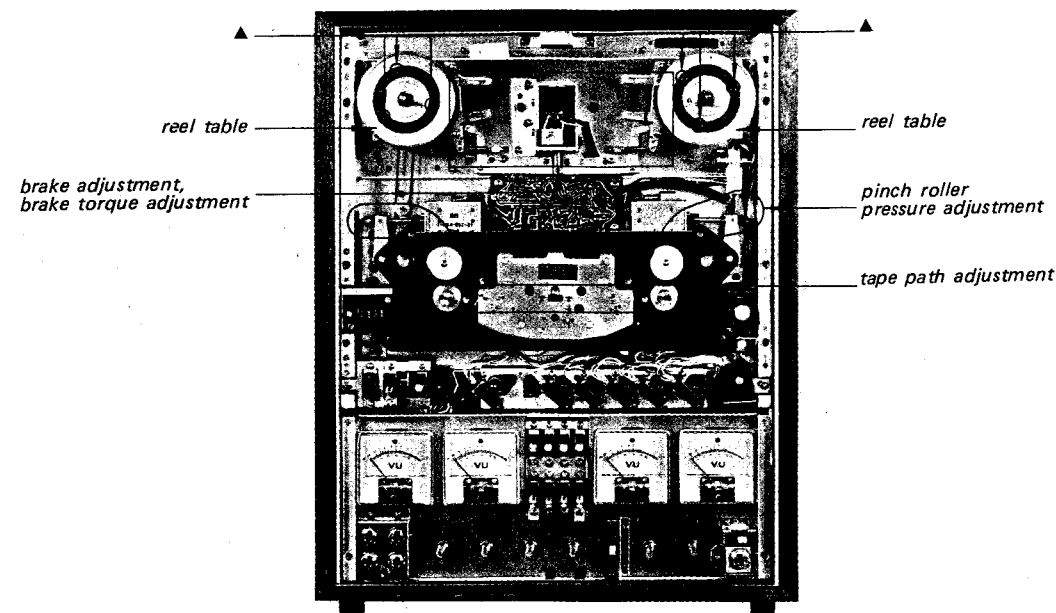

Fig. 3-1-1. Adjusting parts location
- (1) Remove the reel panel, referring to "Reel Panel Removal" on page 14.
- (2) Remove the reel table by removing the six screws marked with ▲ in Fig. 3-1-1.
- (3) Place the unit in the STOP mode.
- (4) Loosen the two screws marked with ● at the take-up and the supply brake bands.
- (5) Temporarily tighten the screws marked with ● while pulling the brake band in the direction shown by the arrow as far as it will go.
- (6) When pushing the pole piece of solenoid slowly into its housing by the hand, the releasing plates of the take-up side and the supply side should touch the each brake lever at a time. If not, loosen the screw marked with ● of the part at which the releasing plate touches the brake lever faster than the other one and adjust the length of the brake band.
- (7) Place the unit in the PLAY mode.
- (8) Be sure that the brake solenoid is energized.
- (9) Loosen the three screws marked with ■ and adjust by positioning the brake solenoid holding plate so that the three screws are in the middle of the respective oval-shaped